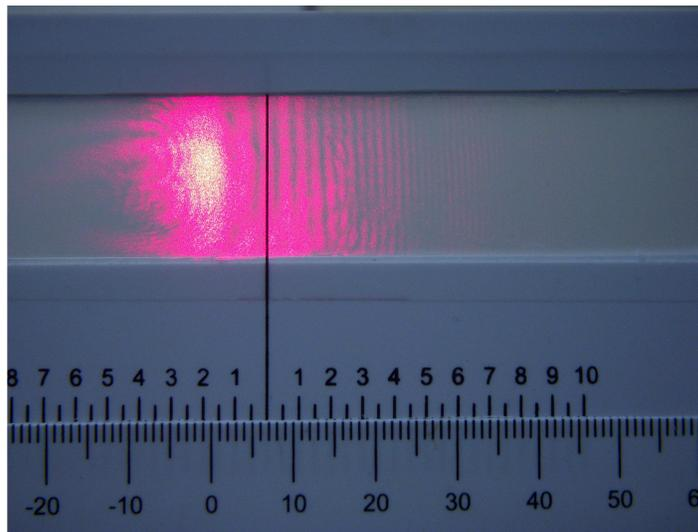

Figure 1.1 Typical interference fringe pattern.
Once the laser beam (A) is reflected on the mirror (B), it must be made to pass through a lens (C), which has a focal length of *a few centimeters*. It can now be assumed that the focus is a light point source from which a spherical wave is emitted. After the lens, and along its path, the laser beam hits a sharp razor blade edge as an obstacle. This can be considered to be a light source from which a cylindrical wave is emitted. These two waves interfere with each other, in the forward direction, creating a diffractive pattern that can be observed on a screen. See Figure 1.1 with a photograph of a typical pattern.